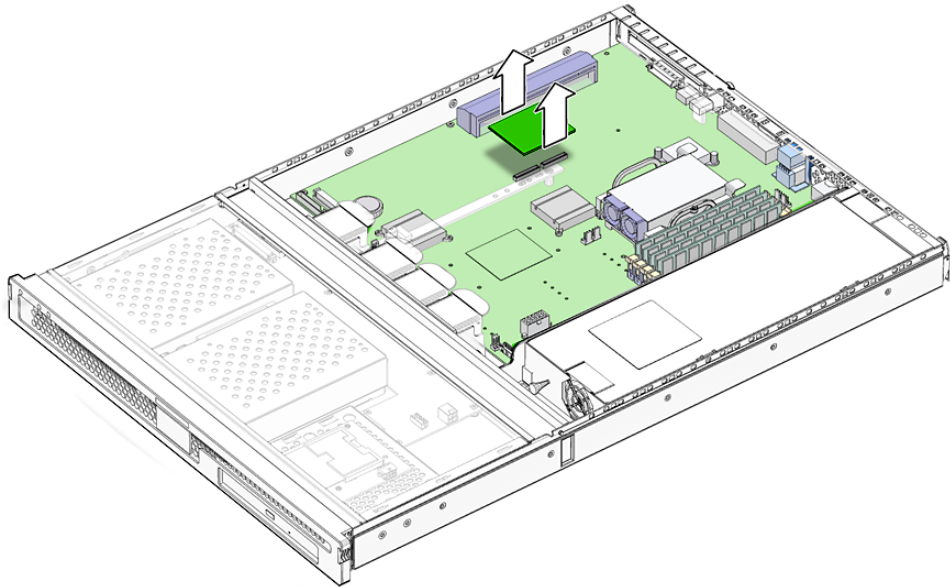

FIGURE 1-18 Removing the Cryptographic Accelerator
3. Lift the cryptographic accelerator away from the chassis (FIGURE 1-18).